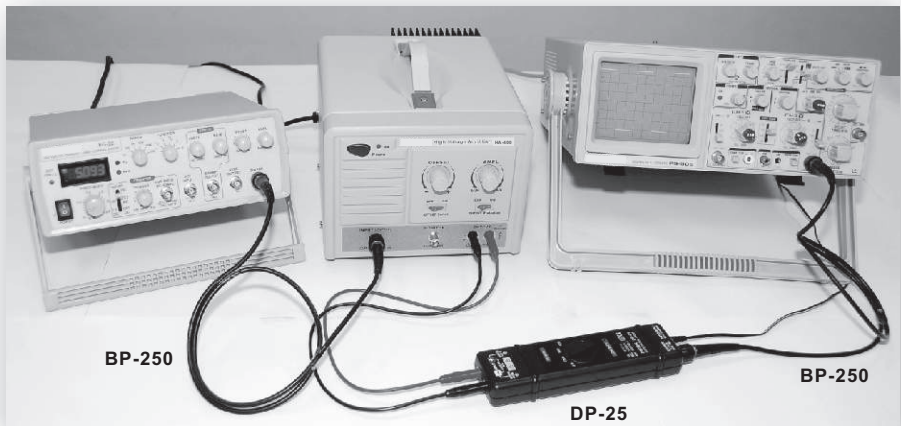

Figure 4.
5.2 Use Function Generator as input, and HA-400 output connects to Differential Probe as interface to transmit signal to oscilloscope to observe. (Figure 4.)